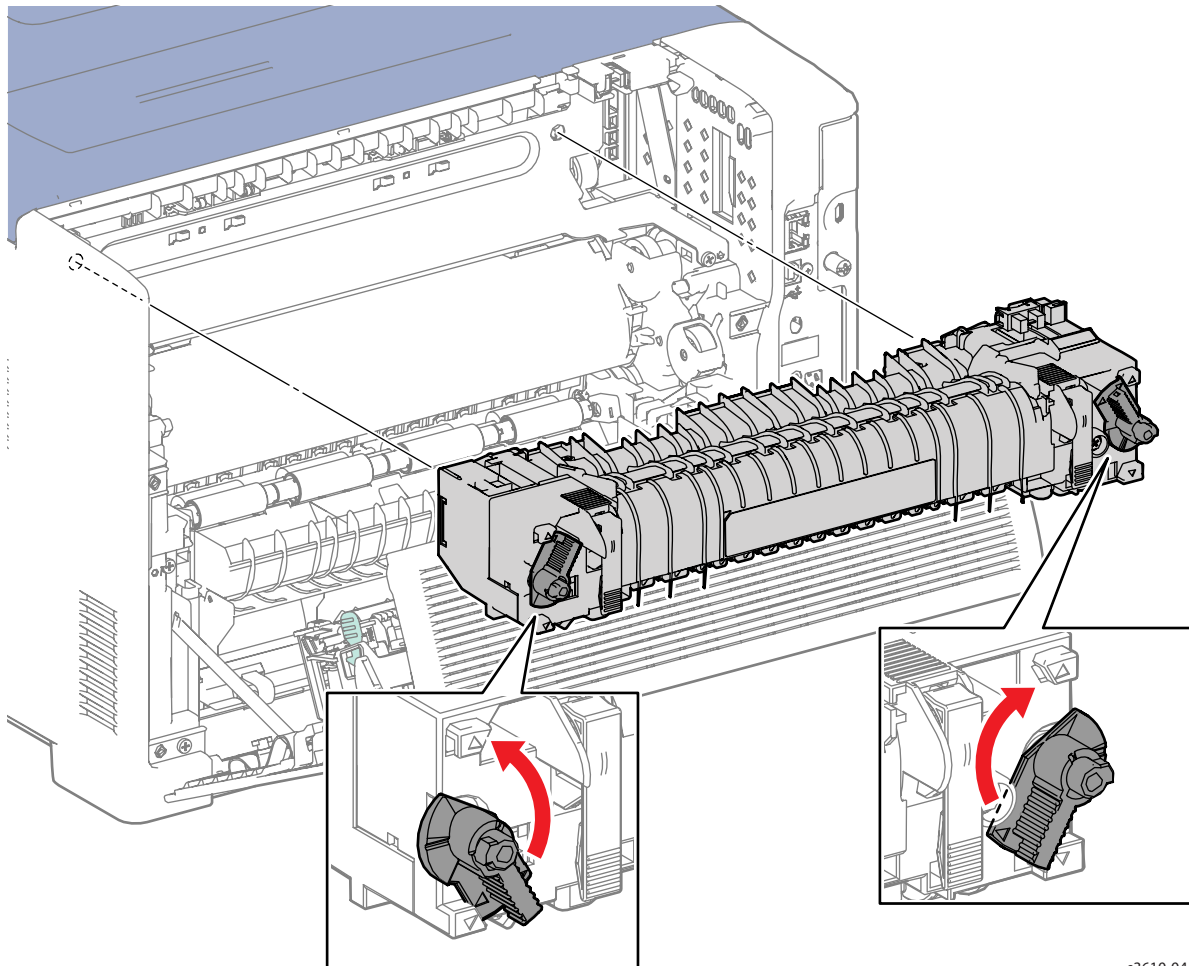

Figure 1
2. Rotate the Fusing Assembly locking levers in the direction indicated by the arrows, then pull the Fusing Assembly out of the printer. (Figure 1)